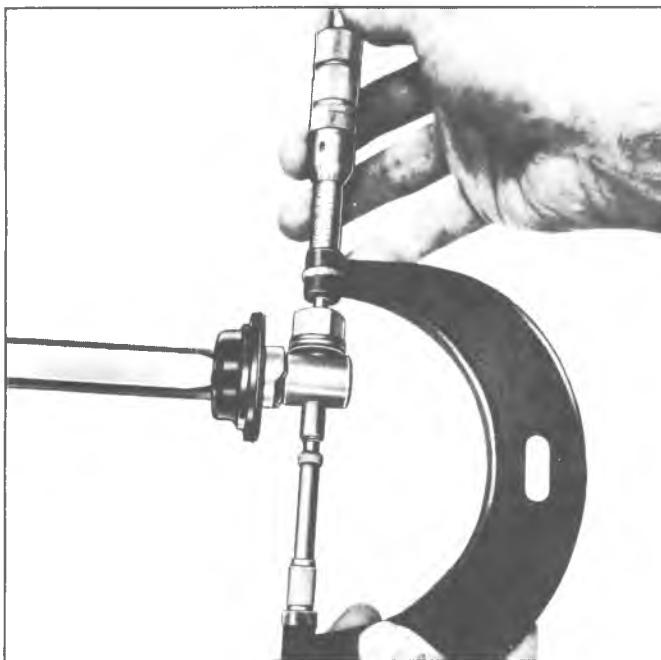

Fig. 45—Checking Coupling Pin Centering
3. Check centering of pin (fig. 45).
pitman shaft. Remove the pitman shaft nut or pitman arm pinch bolt and then remove the pitman arm from the pitman shaft using Puller J-6632 (fig. 45).